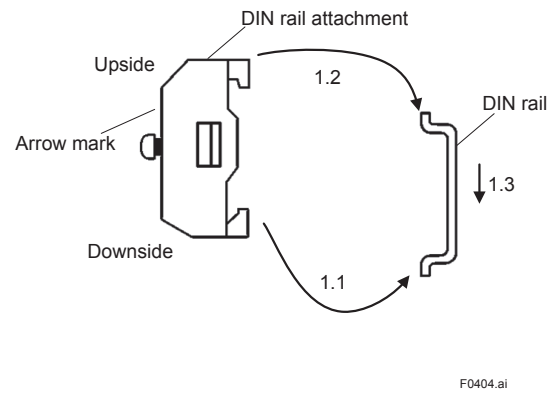

Figure 4.4 Installing DIN rail Attachment to DIN rail
1. Snap the supplied DIN rail attachment to the DIN rail (See Figure 4.4).